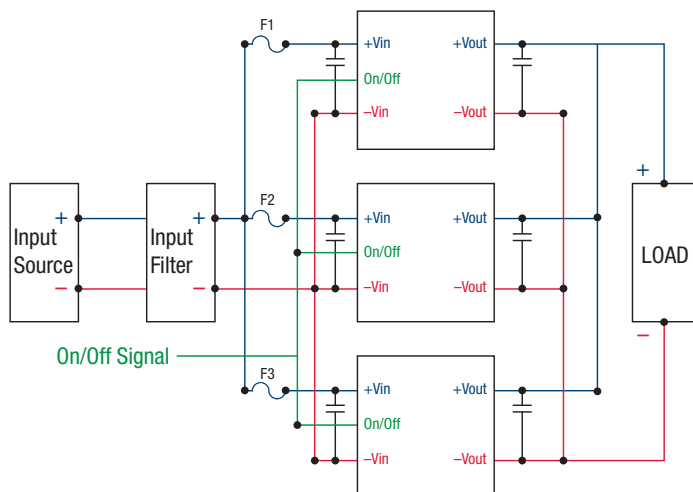

Figure 2. Load Sharing Block Diagram
Two or more converters may be connected in parallel at both the input and output terminals to support higher output current (total power, see figure 2) or to improve reliability due to the reduced stress that results when the modules are operating below their rated limits. For applications requiring current share, follow the guidelines below. See specification table for Output Voltage set points. The stated output voltage set point is trimmed to a very narrow range ( $11.7V \pm 10mV$  @48Vin, 50% load). The output voltage will decrease when the load current is increased. Our goal is to have each converter contribute nearly identical current into the output load under all input, environmental and load conditions.
- It is required to use a common Remote On/Off logic control signal to turn on modules (see figure 2).